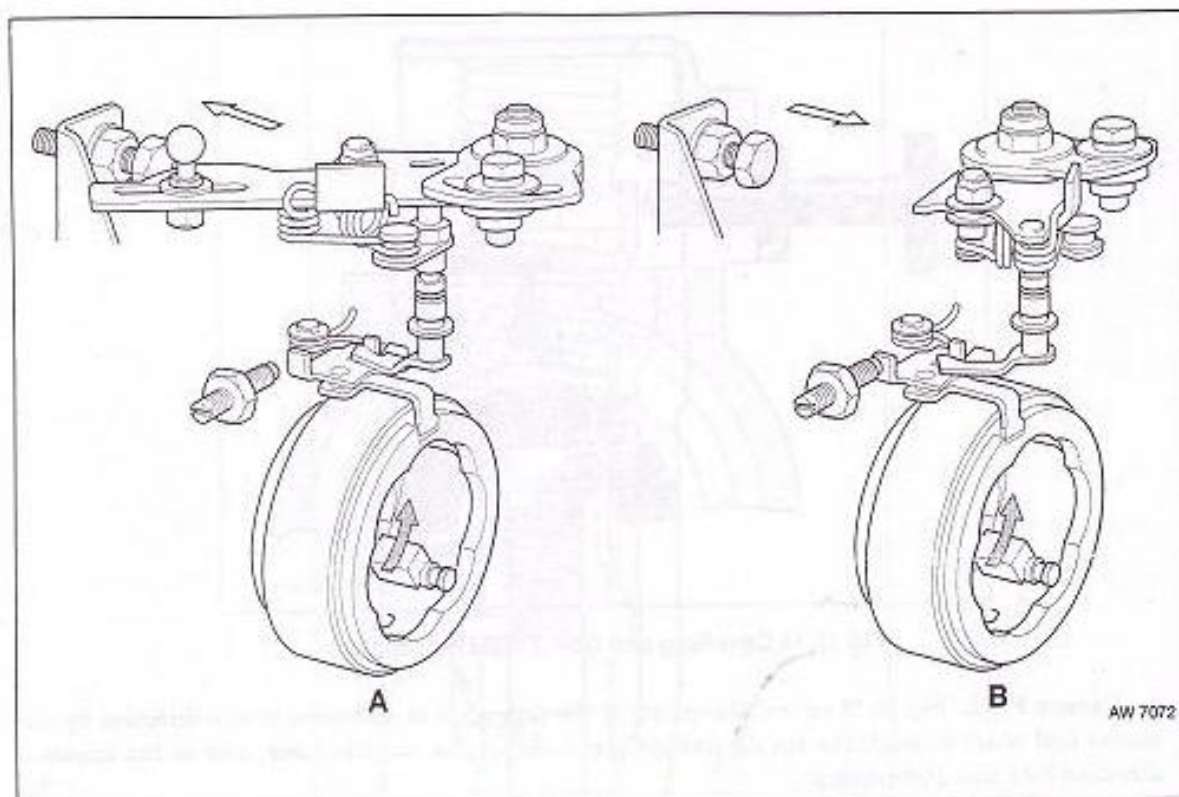

Fig 15.15 Scroll Plate Mechanism with Mechanical Excess Fuel
b. **Excess Fuel.** Fig 15.15 refers. Movement of the link plate is controlled in one direction by the excess fuel shaft through the spring linkage connected to the throttle lever, and in the opposite direction by a link plate spring.